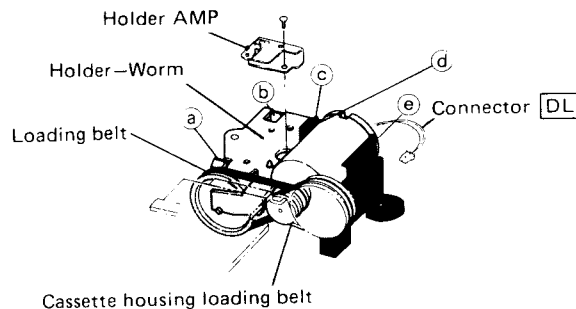

Fig. 3-10
- 2) Remove the holder AMP with retaining screw as shown in Fig. 3-10.
- 4) Remove the cassette housing loading belt as shown in Fig. 3-10.
- 5) Remove the loading belt as shown in Fig. 3-10.
- 6) Unlock the three supports (a, b and c) shown in Fig. 3-10 and remove the holder-worm.
- 7) Unlock the two Motor supports (d and e) as shown in Fig. 3-10 and remove the loading motor.